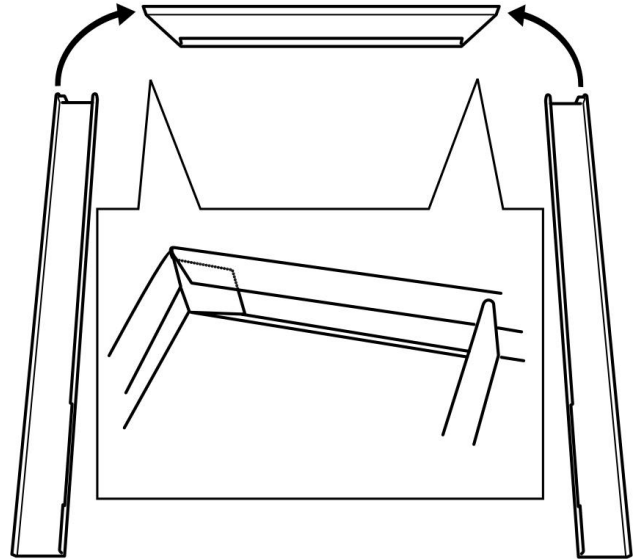

Figure 11.
1. Lay the three fascia parts face down on a flat surface as in figure 11. Each side trim has a small tab at the top. Position the tab to the outside upper edge (See figure 11).